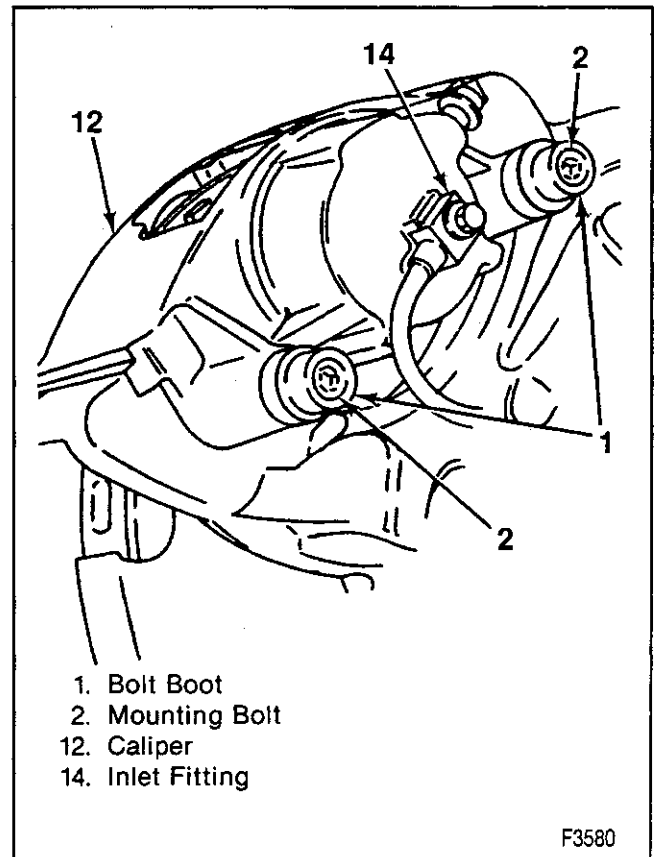

Figure 5—Caliper Attachment (Delco)
4. Compress piston using adjustable pliers over inboard lining (7) tab and caliper housing flange (12).
5. Brake hose from caliper by removing inlet fitting bolt (14).
6. Mounting bolts (2) (figure 5).
7. Bolt boots (1).
8. Caliper (12).
9. Mounting bolt seals (4) if used.
10. Bushings (3).
Install or Connect (Figures 5 through 14)